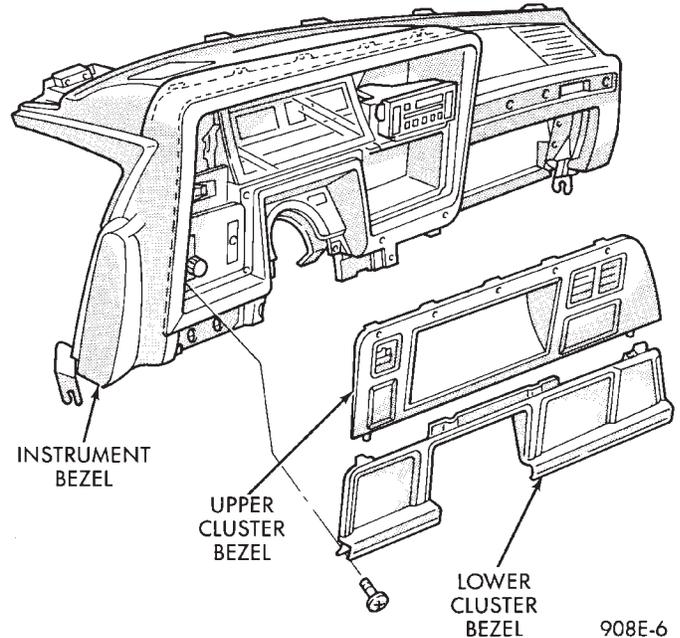
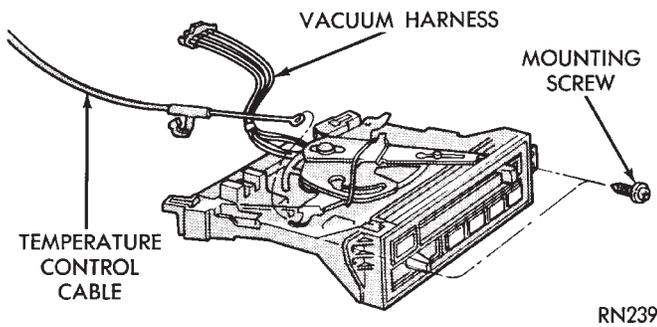

Fig. 31 Cluster Bezel
Fig. 33 A/C Control
- (1) Remove upper cluster bezel (Fig. 31).
- (2) Remove two control mounting screws.
(3) Slide control rearward, disconnect cable, vacuum harness and electrical wiring (Fig. 33).
- (1) Remove cluster bezel (Fig. 31).